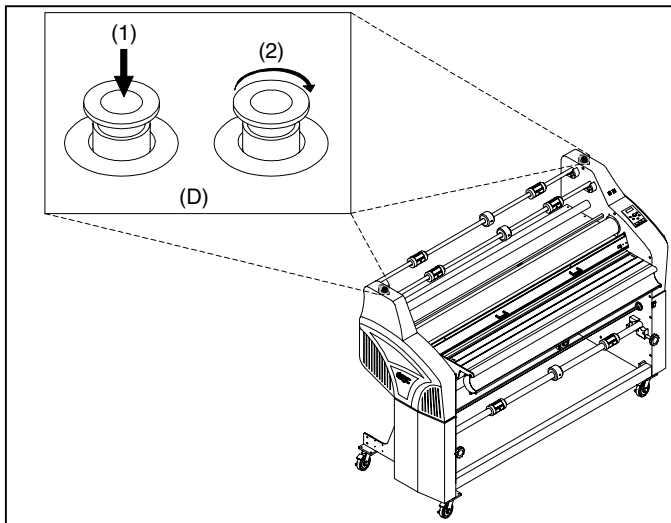

Fig. 11
**A. E-STOP:** (Figure 11) Two E-STOP buttons exist on the laminator. One on each side of the upper cabinet.